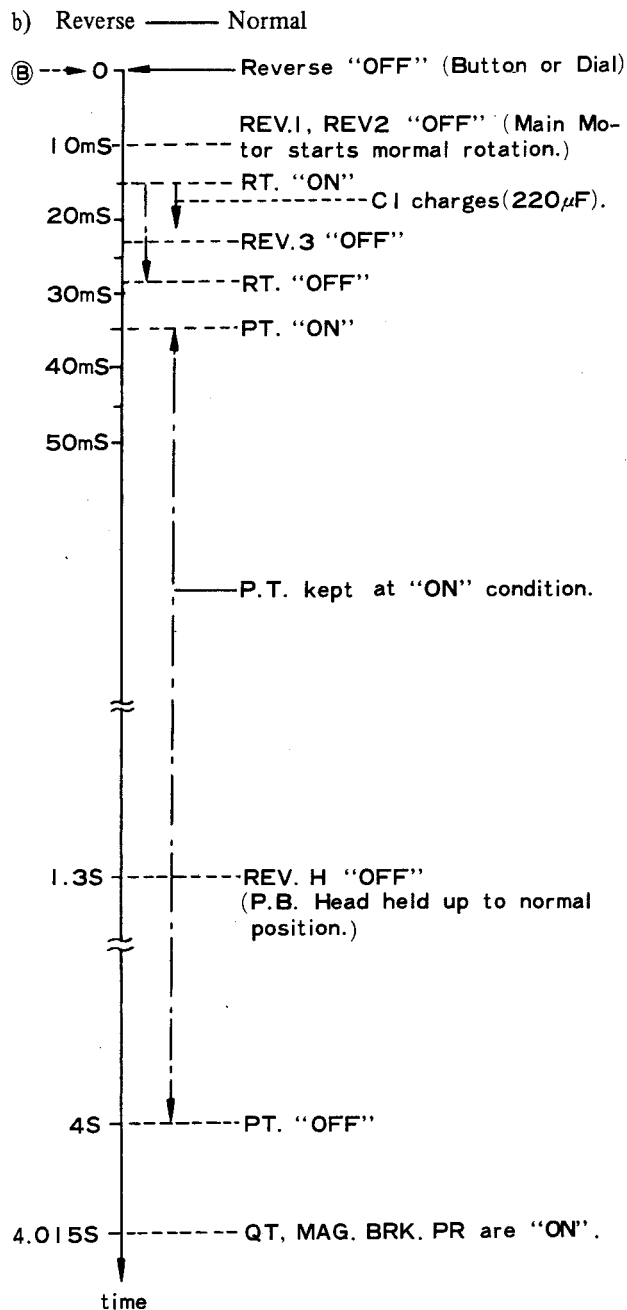

Fig. 9
Reverse Circuit current is cut off at point (B), but REV1 and REV2 remain engaged for approximately 10 milliseconds. As REV1 is disengaged, the Main Motor starts rotating in the Normal direction. When the current in the Reverse Circuit is cut off, the 33  $\mu$ F Condenser, which in series connects to the RT Relay and charged during Reverse Play, is discharged through the RT Relay Coil and the 650  $\Omega$  Resistor. The Discharge Time is about 28 milliseconds. Thus, the RT Relay remains engaged approximately 13 milliseconds. (See Figure 9) RT1 normally open contact is closed and Condenser C1 (220  $\mu$ F) is charged in approximately 5 milliseconds.